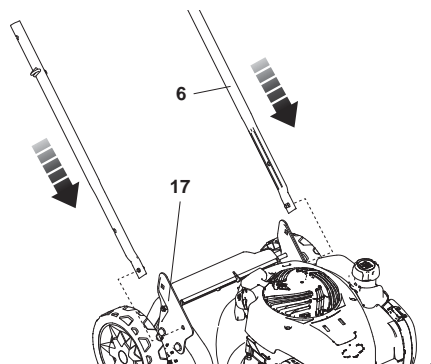

Fig. 2
2. Make sure the holes in the lower handle bar are aligned with those in the supports (Fig. 2) Ensure handle bar with starter coil loop fitted on right hand side when standing behind mower.